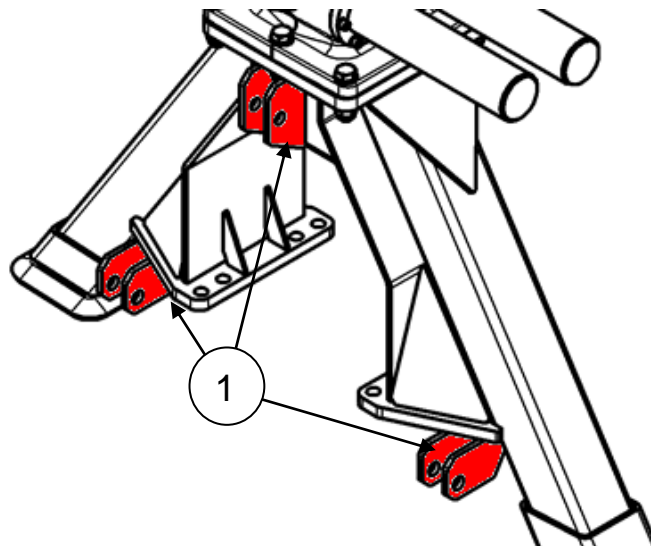

Figure 6.1 3-point linkage junctions on Palms 640 A-type support legs
Before mounting crane to the 3-point linkage (pos.1, fig. 6.1) make sure that: